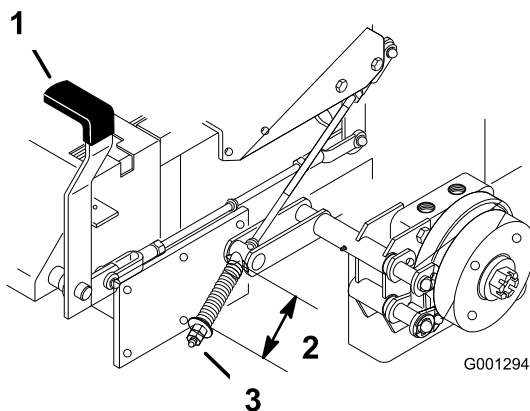

Figure 81
3. Measure the length of the spring (Figure 81).
4. If adjustment is necessary, disengage the parking brake, loosen the jam nut below the spring and adjust the nut directly below the spring (Figure 81).